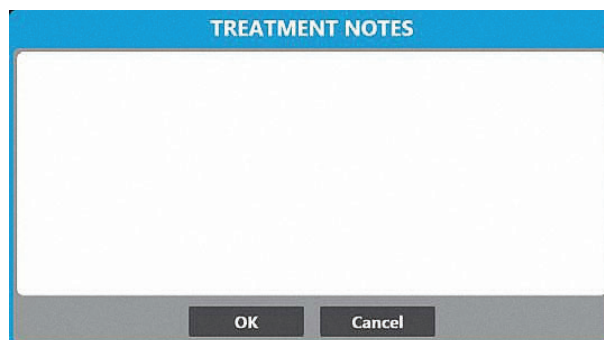

Figure 13. Treatment Notes window
- Press the **Treatment Notes** button on the Therapy screen to add observations and other relevant information to the treatment file (Figure 13).